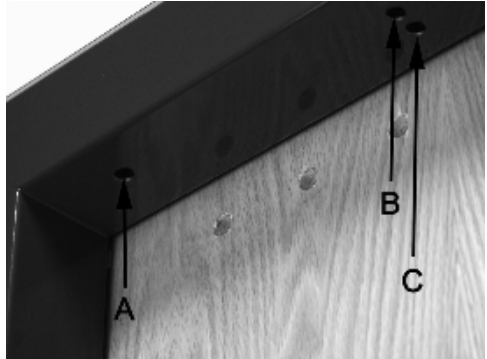

Figure 7. Lock Body Drill Holes
**NOTE 1:** Figure 7, "Lock Body Drill Holes," provides illustration for the following steps.